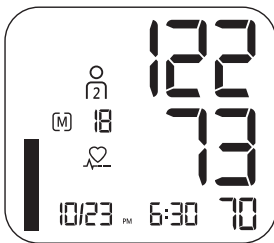

Fig. 2
5. All results for a given measurement will display, including measurement results, pulse rate, Hypertension Indicator and Irregular Heartbeat alert (if applicable). The date/time stamp is at the bottom of the display, Fig 2.